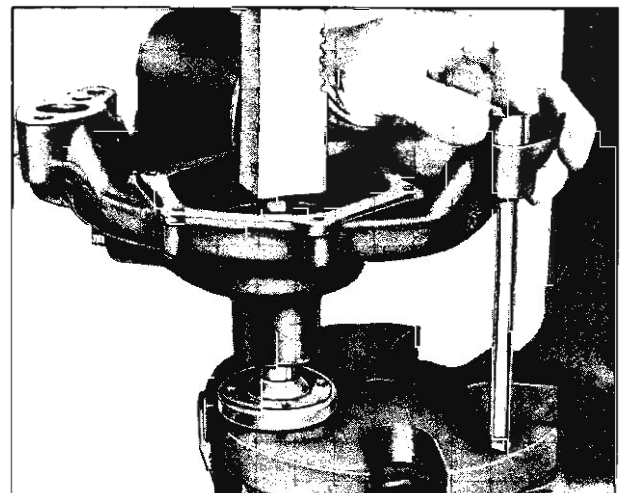

Fig. 203—Installing Fan Hub, 8 Cylinder (283 Cu. In. Engine)
3. Press on fan hub. Check fan hub location, as this is very critical and has a definite bearing on fan belt operation. Install Tool J-5775 used for 235 and 283 cu. in. water pumps and install Tool J-7034 in 348 cu. in. water pumps, in one of the bolt holes, from rear of pump (figs. 203 and 204). On 6 cylinder models place a straight edge on the front face of the fan hub with the head of the gauge held firmly against body, the straight edge should lightly contact short step on gauge Tool J-5775 (fig. 205). 8 cylinder 283 cu. in., use end of gauge J-5775 (fig. 203) and gauge Tool J-7034 for 348 cu. in., 8 cylinder models use short step of gauge (fig. 204).